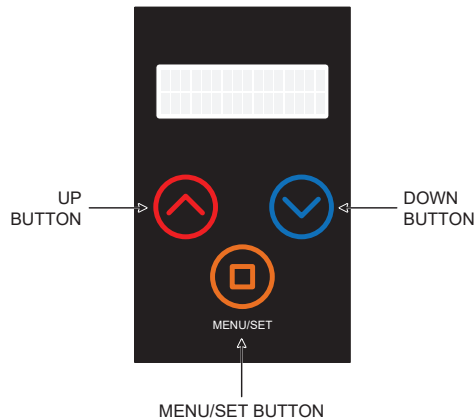

Figure 9. Heater Control Display
The heater display is located in the front panel of the heat pump, covered with a door. All operation and settings of the heater control are accomplished through the use of the three (3) buttons on the user interface. These keypad is displayed in Figure 9.